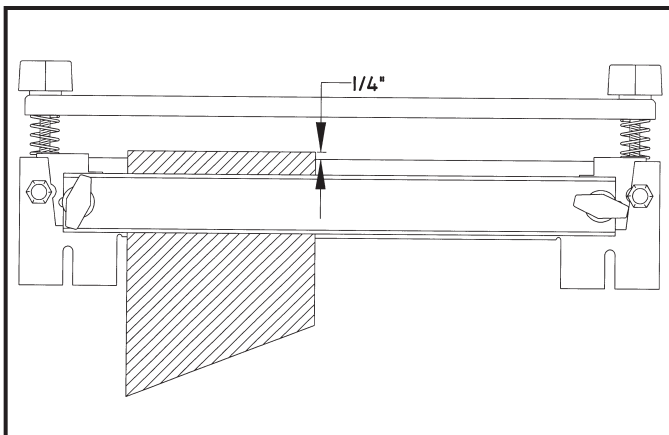

Fig. 6
1. Temporarily clamp the left side of the drawer "inside out" under front clamp bar and extending approximately 1/4" above top surface of the base as shown in Fig. 6.